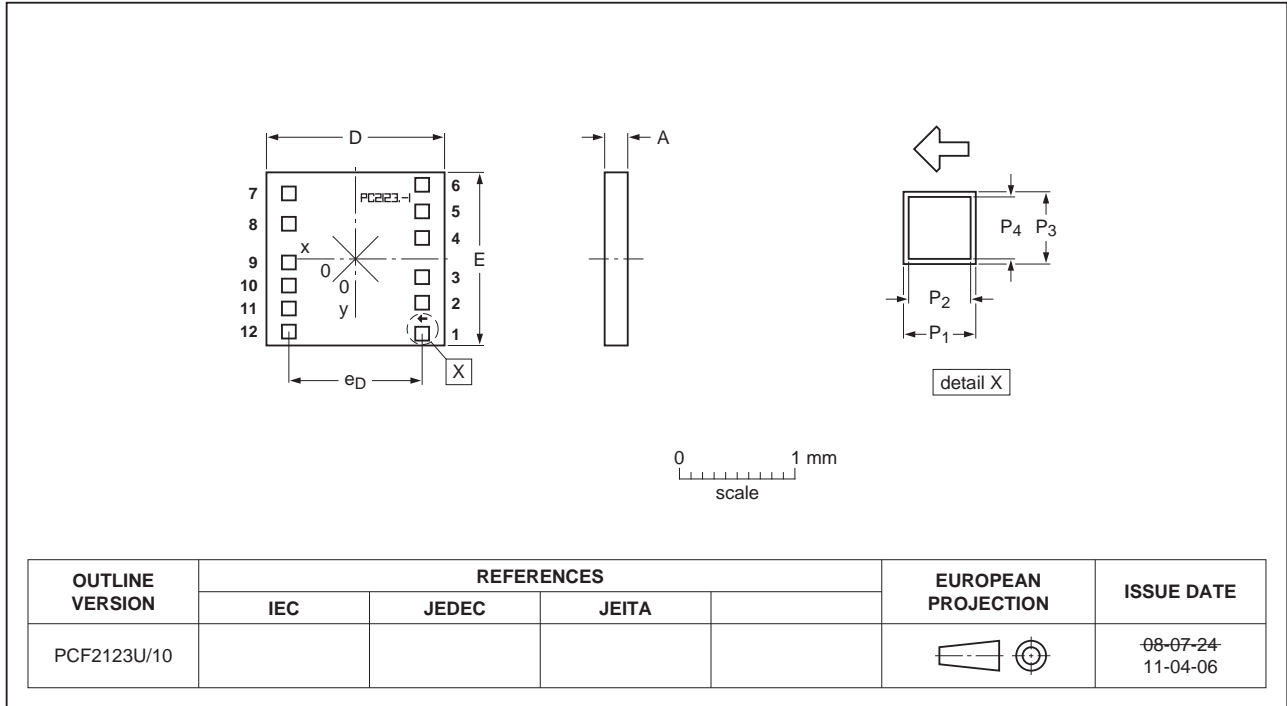
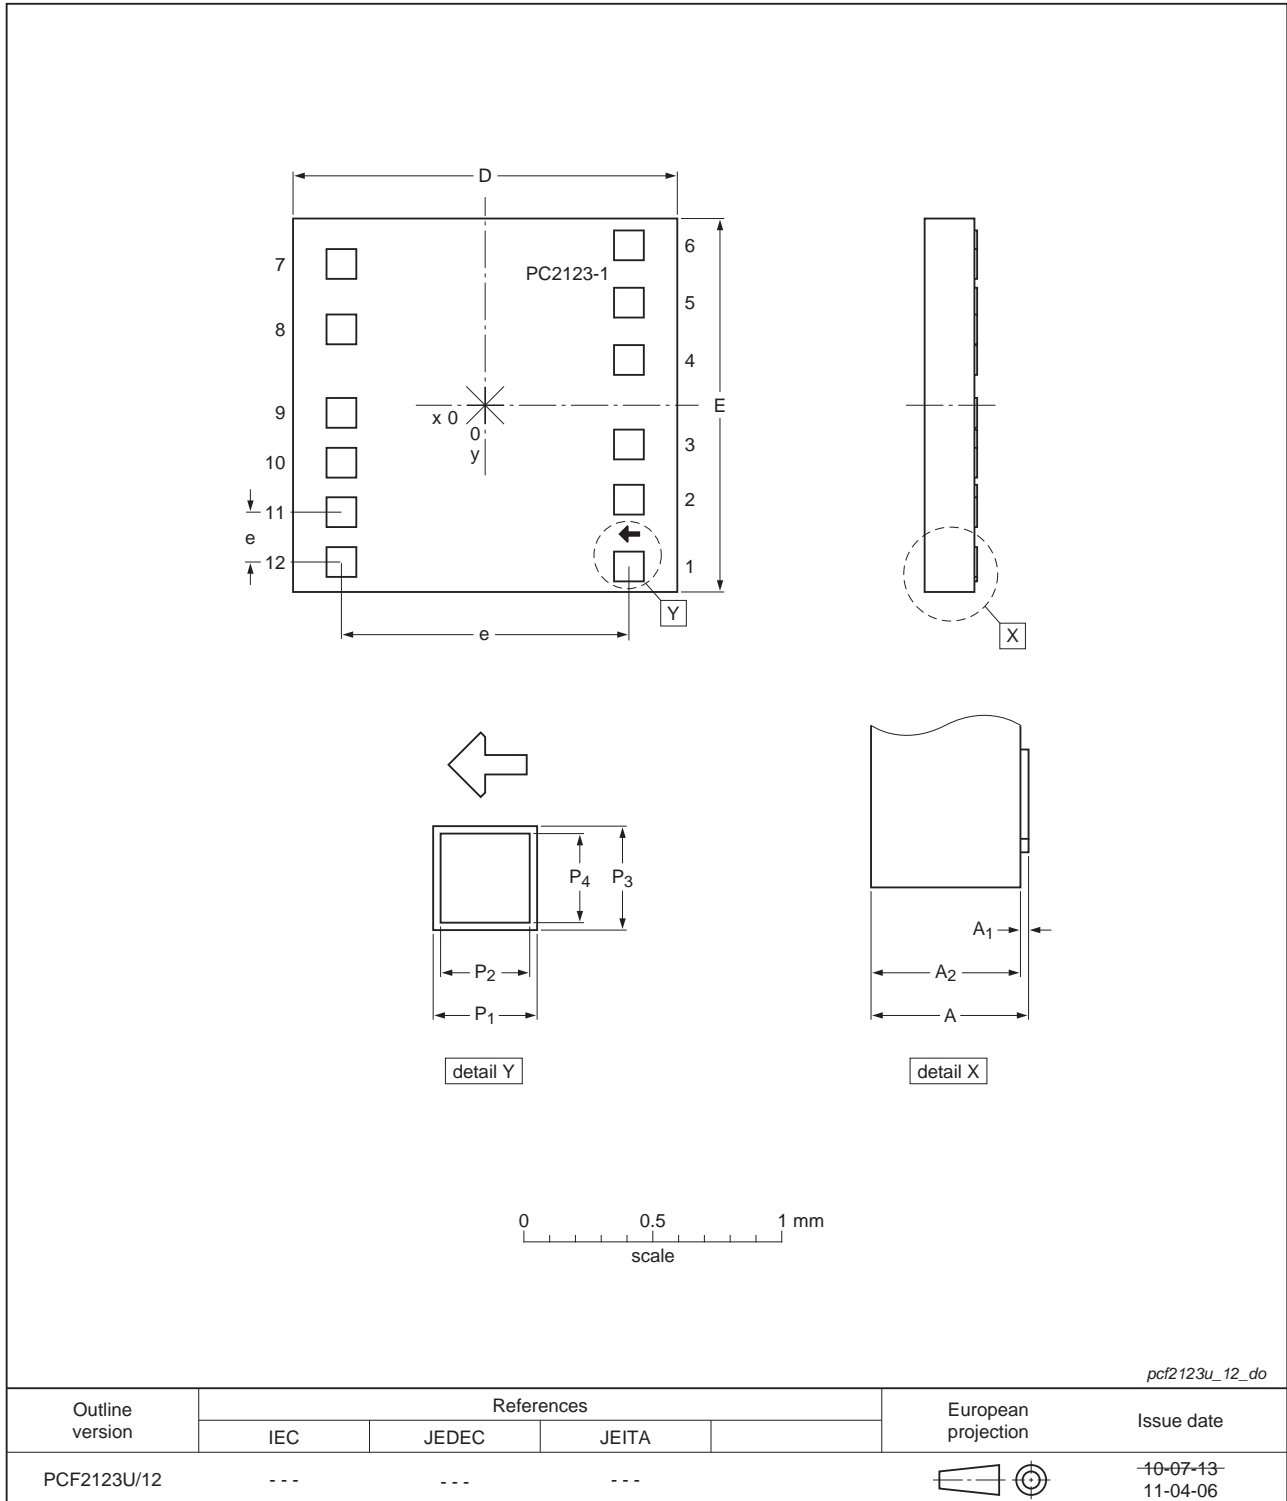

Fig 33. Bare die outline PCF2123U/10 of PCF2123U/5GA/1 and PCF2123U/10AA/1 (for dimensions see Table 47)
Fig 34. Bare die outline PCF2123U/12 of PCF2123U/12AA/1 and PCF2123U/12HA/1 (for dimensions see Table 48)
All x/y coordinates represent the position of the center of each pad with respect to the center (x/y = 0) of the chip; see Figure 33 and Figure 34.
- [1] The x/y coordinates of the alignment mark location represent the position of the REF point (see Figure 35) with respect to the center (x/y = 0) of the chip; see Figure 33 and Figure 34.